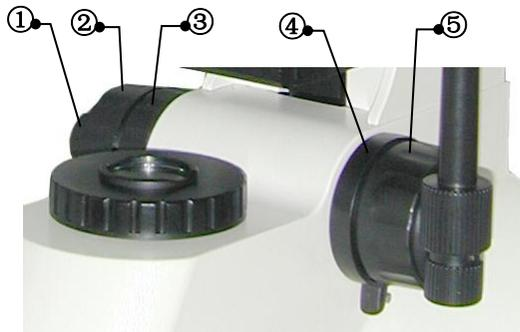

Fig.9
a. Focusing: Coarse adjustment knobs ② / ⑤ are located on each side of the frame, can accomplish coarse adjusting. Fine adjustment knobs ① is located on each side of coarse adjustment knobs and same axis to them. When Clockwise turn coarse adjustment knobs or fine adjustment knobs, make the stage raise, counterclockwise turn to make stage fall. Minimum division of fine focusing is $2\mu\text{m}$. See fig.9.
b. Focus Tension Adjustment: The tension of the coarse focus is adjustable and preset at the factory for ease of use. If you wish to adjust the coarse focus tension, first locate the tension adjustment ring ③. Turning the ring toward the front of the microscope (counterclockwise) increases the tension, and toward the rear of the microscope (Clockwise) loosens it. See fig.9.
c. Pre-focusing or Focus Stop Control: Use of this feature will insure that the short working distance objectives don't contact the stage or slide glass when using the microscope. Its use also simplifies focusing. After focusing on the slide glass with the coarse adjustment ② in low magnification objective, then rotate the stop control lever ④ toward the rear of the
microscope to set an upper limit on the coarse adjustment movement. After changing objectives, focusing is easily accomplished by rotating the coarse adjustment knob to reach the pre-focused position, then making fine adjustments with the fine adjustment knob ①. See fig.9.